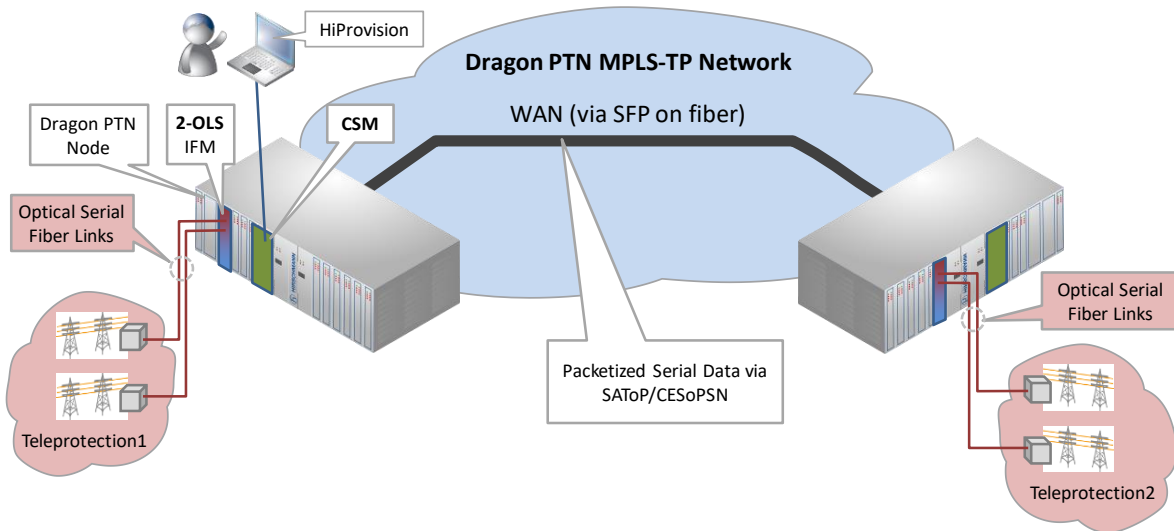

Figure 2 Circuit Emulation: Transport Optical Serial Data via Dragon PTN
- ▶ Circuit Emulation Optical Serial Data (Figure 2): The IFM uses backplane access and transports the received optical serial data over the Dragon PTN network to a destination optical serial port. Service in HiProvision = 'Circuit Emulation - Optical Low Speed Serial';